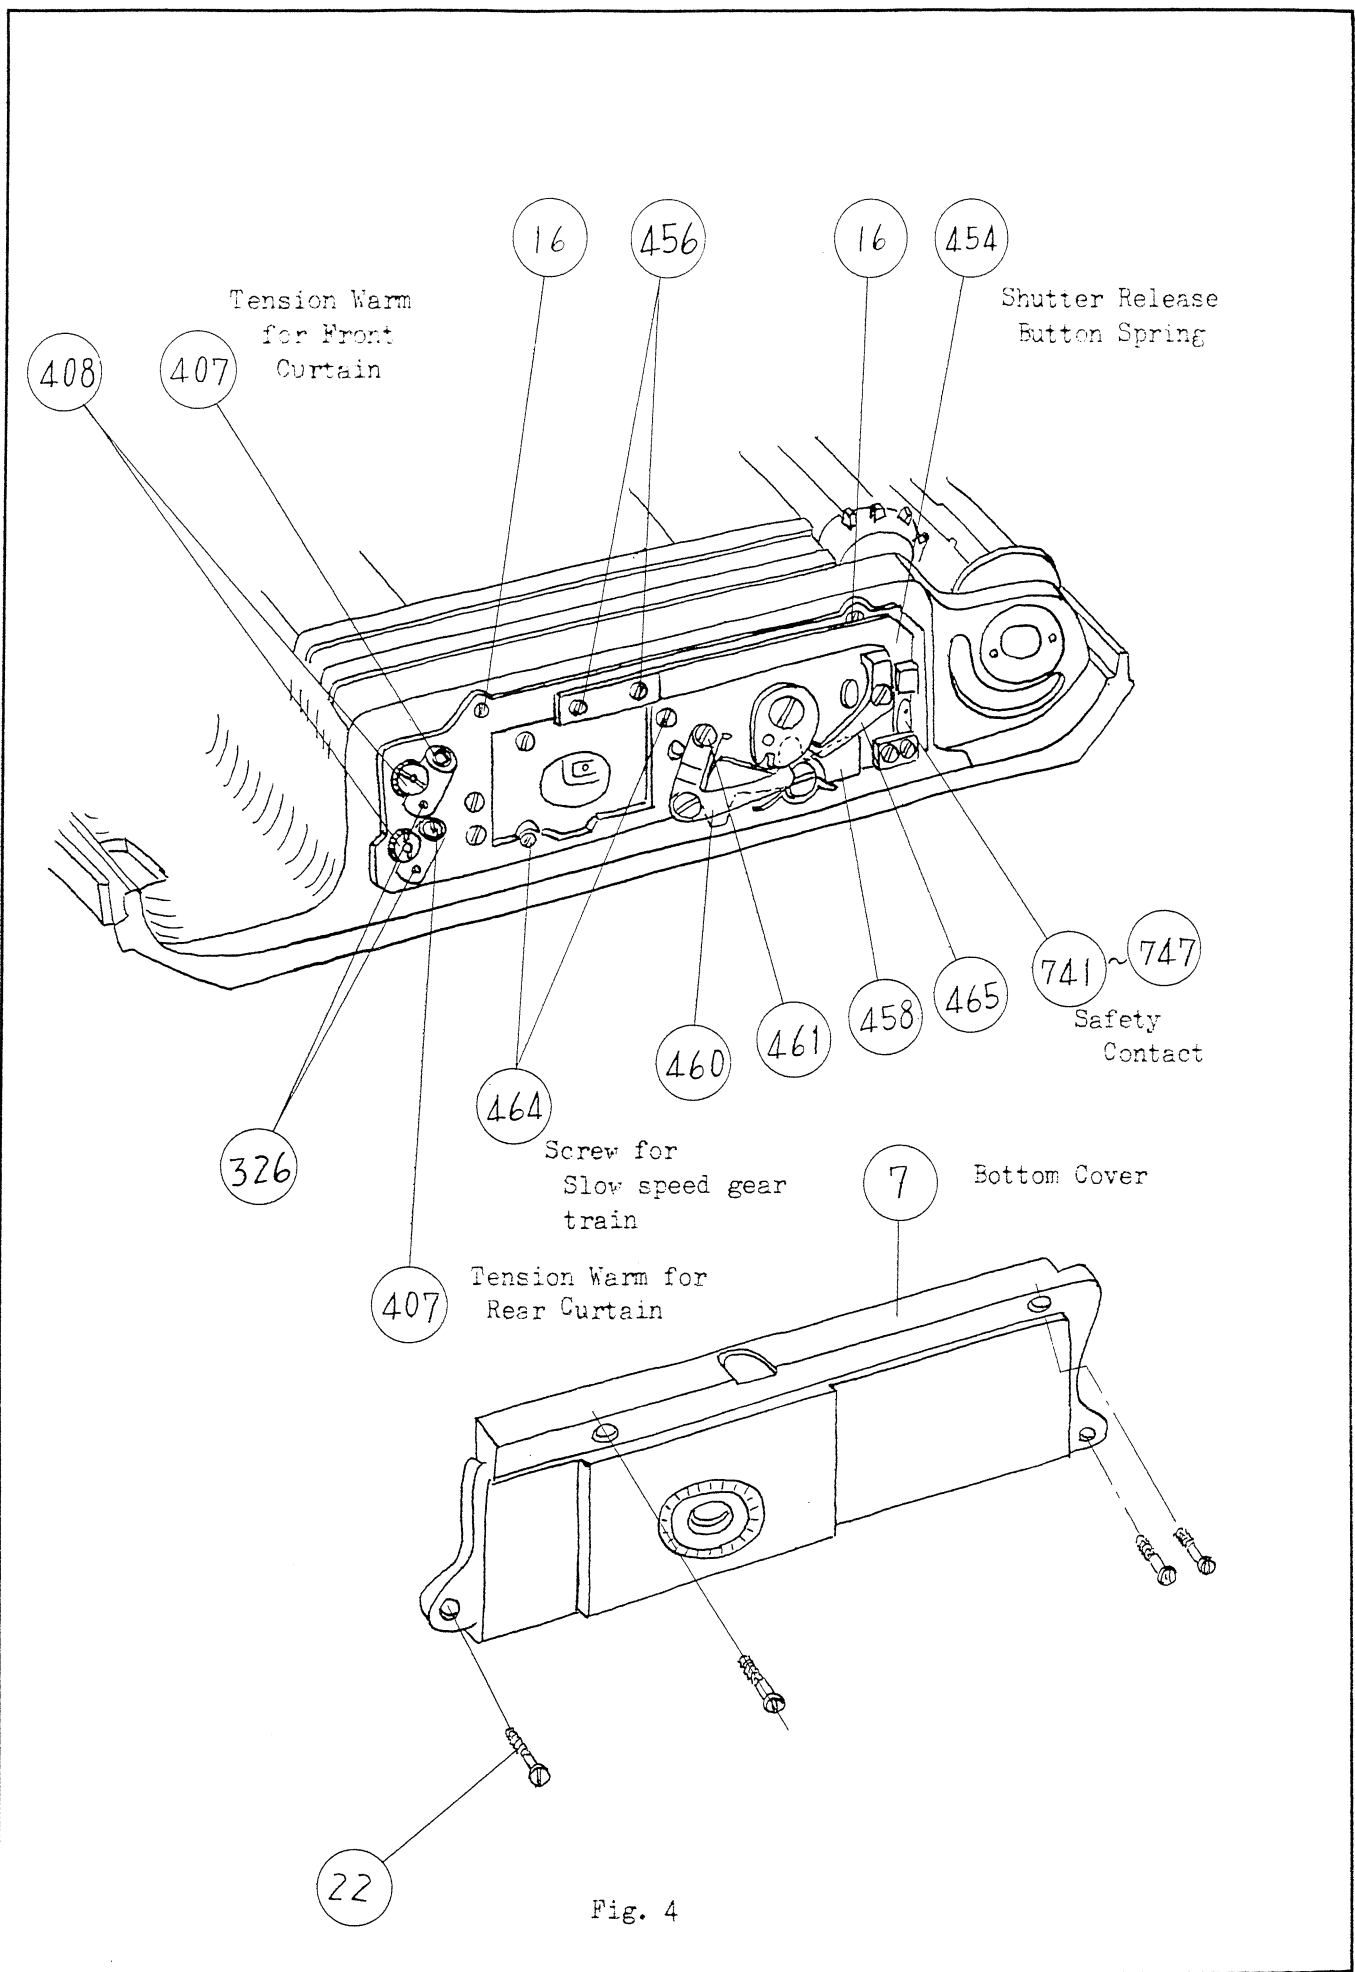

Fig. 4
- (5) Refer Fig. 4. Make free safety contact from the bottom-plate by unscrewing two screws. Remove the plate spring #454 by unscrewing two screws.
- (6) The bottom-plate with shutter curtains is now ready to be removed from the camera body by unscrewing four screws which secure the bottom-plate to the camera body.
- (7) Set the curtain drum and tension shaft on the Tool and replace the curtain.